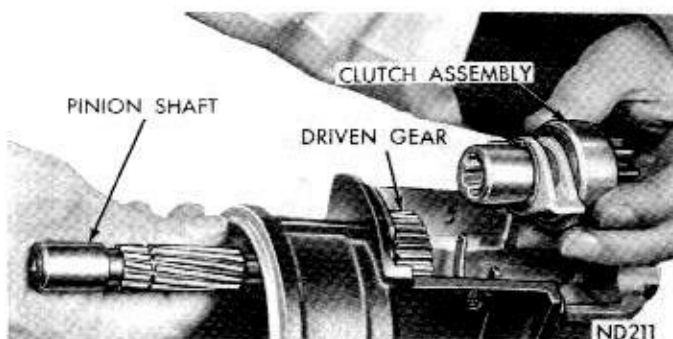
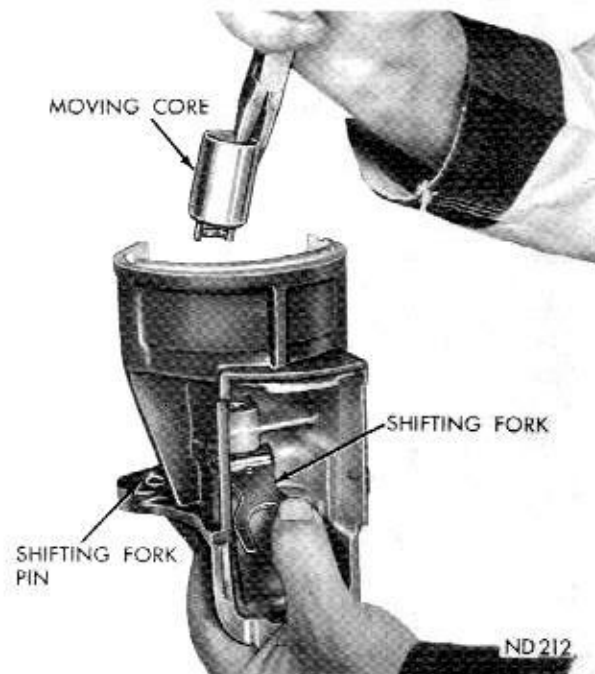

Fig. 9—Removing or Installing Clutch Assembly
Fig. 10—Removing or Installing Moving Core
nylon actuators as an assembly (Fig. 9).
(18) Remove driven gear and friction washer.
(19) Pull shifting fork forward and remove solenoid moving core (Fig. 10).
(2) Install solenoid moving core and engage shifting fork (Fig. 10).
(3) Enter pinion shaft into drive housing and install friction washer and drive gear.
(4) Install clutch and pinion assembly, thrust washer, retaining and thrust washer (Fig. 9).